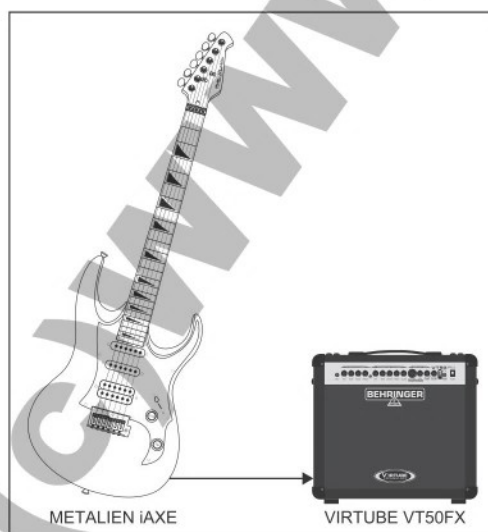

Fig. 4.2: Connection to a guitar amp
- 3 The ¼" TS connection can be used to connect the iAXE629 guitar to any standard guitar amplifier. (See Fig. 4.2)